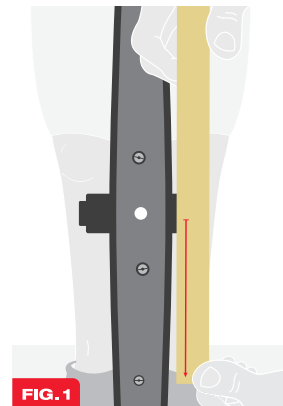

FIG. 1
- 2** Pull a 12-inch length of TCS Tape from the roll. Adhere the end of the tape four inches before the valve hole (Figure 1). Make sure to keep the tape taut, but do not over-stretch it.